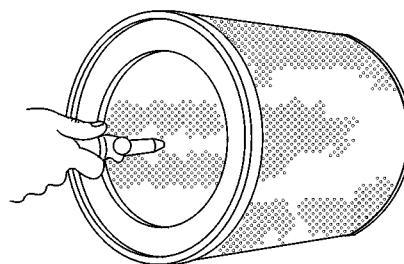

FIGURE 5-4. CLEANING FILTER ELEMENT WITH COMPRESSED AIR
2. As shown in Figure 5-4, direct the stream of air from the nozzle against the inside of the filter element. This is the clean air side of the element and air flow should be opposite of normal air flow.